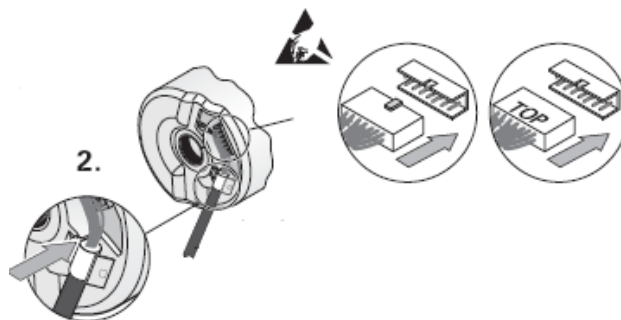

Figure 27: Attach encoder cable
2. Reconnect the encoder cable for the ECN1313 only. See Figure 27.